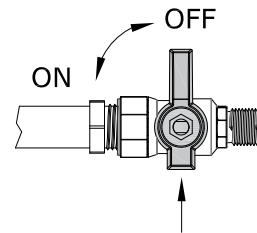

Figure 8.8 - Step 1
1. Locate the main gas shut-off valve upstream of the appliance connector and close valve. Next, disconnect the electrical power to the fireplace. Figure 8.8.